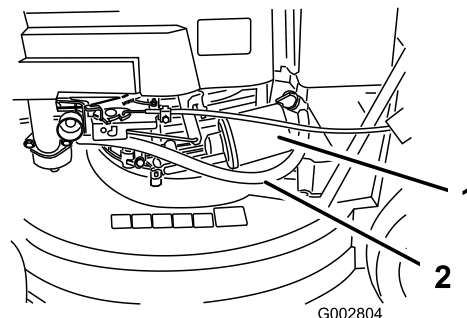

Figure 25
- Place a rag under the oil filter to catch any oil that may leak out as you remove the filter (Figure 25).